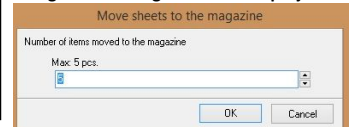

Fig. 59 – moving sheets to the magazine
- - works analogically to the previous function but moves a given number of chosen sheets from the current project to the magazine (Fig. 59).